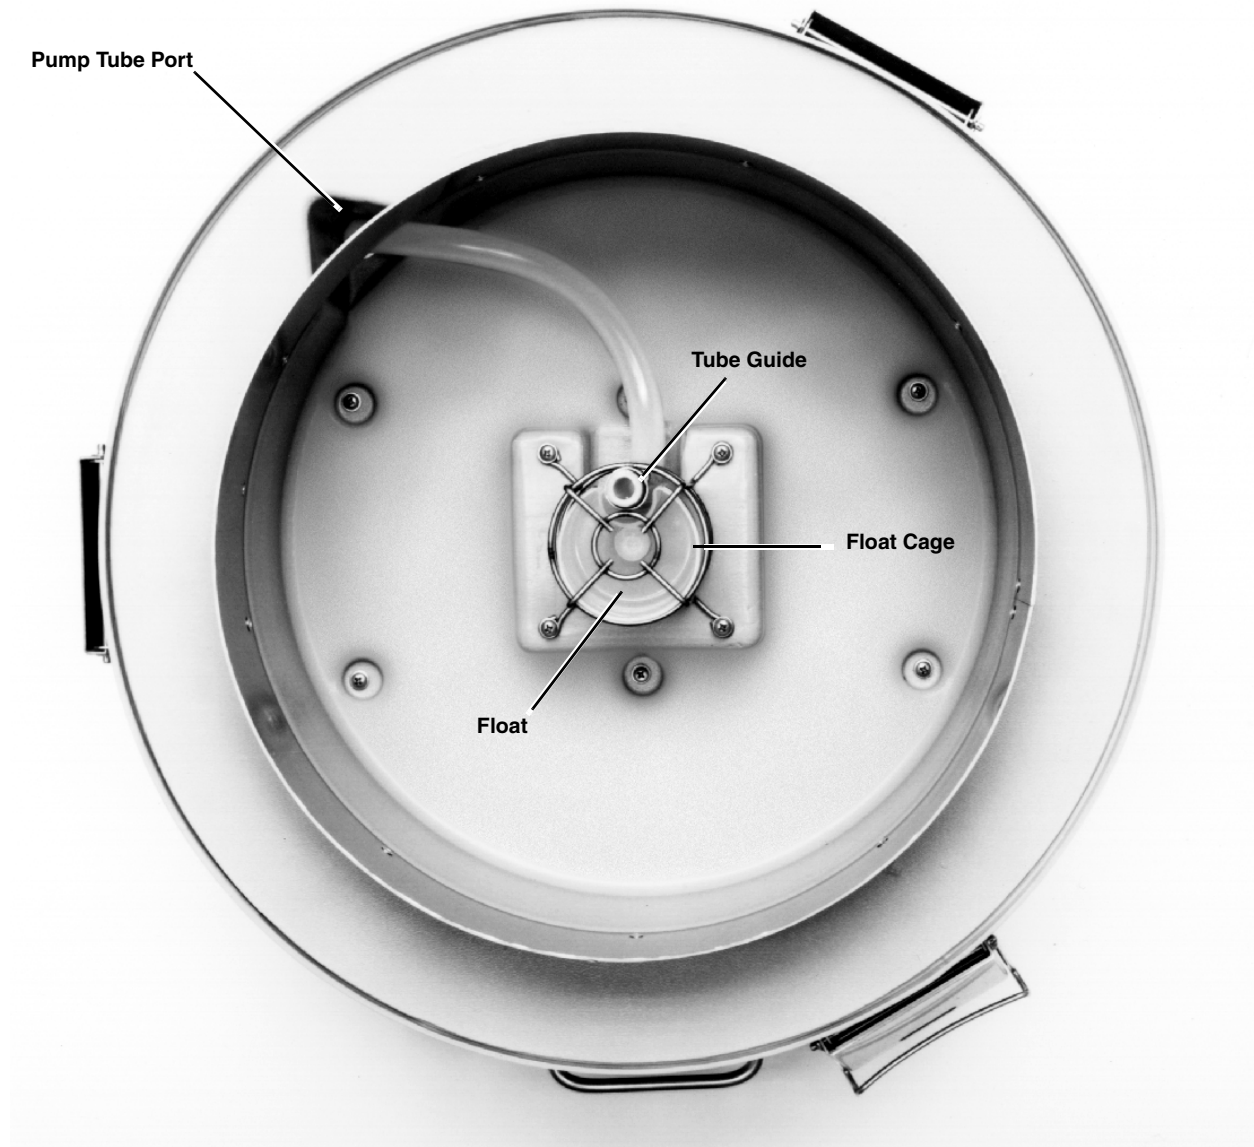

Figure 5-1 Center Section: Removing the Pump Tube (Standard center section shown)
3. Remove the tube from the float cage by pulling the tube out of the pump tube guide, indicated in Figure 5-1, on page 5-5.
7. Turn the center section over again, and feed the end of the tube into the pump tube guide in the float cage as shown in Figure 5-1. The discharge end of the tube should be flush to $\frac{1}{16}$ -inch below the end of the guide.